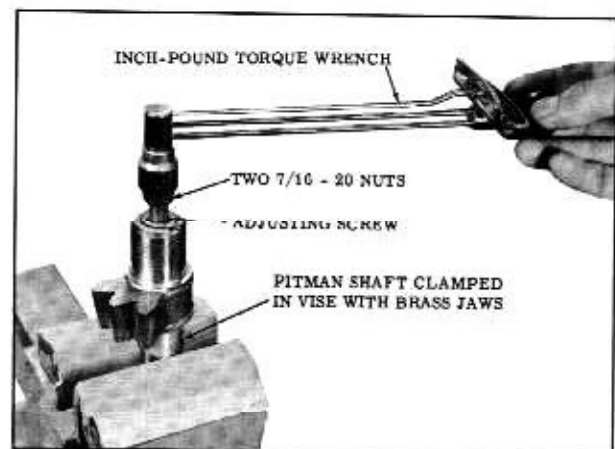

Fig. 4-19 Checking Adjusting Screw Torque
2. Using a 5/8" socket and a inch-pound torque wrench, measure the torque required to turn the adjusting screw. (Fig. 4-19) Torque reading should be 1 to 15 inch lbs.